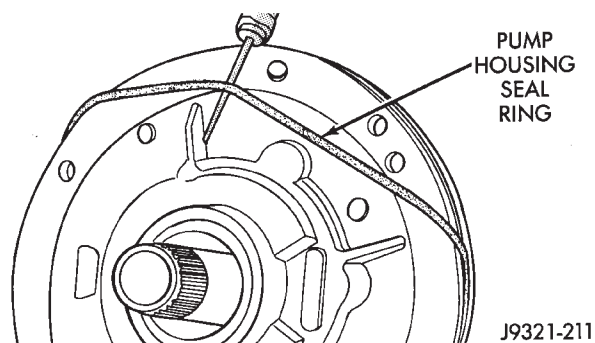

Fig. 36 Removing Pump Housing Seal
- (1) Remove seal from around pump housing (Fig. 36).